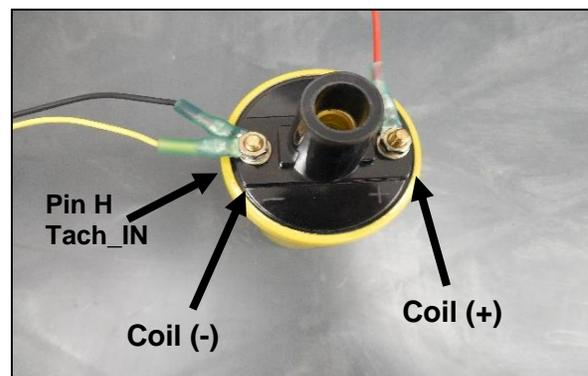

Figure 17 – Conventional 12v Coil
- COIL (-) Connection (Fig. 17)